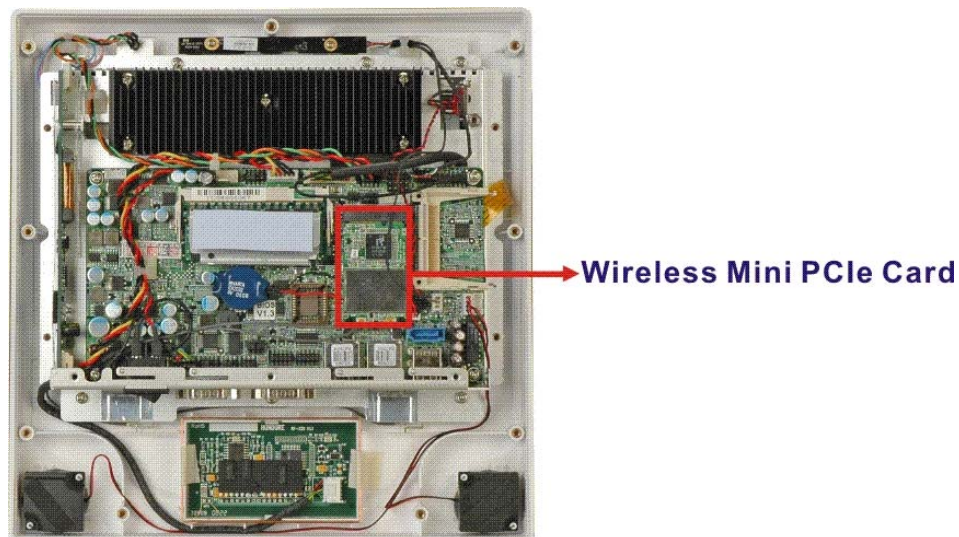

Figure 6-5: Wireless Module Location
Step 4: Locate the wireless module. The wireless module is located below the CPU heat sink. See **Figure 6-5**.